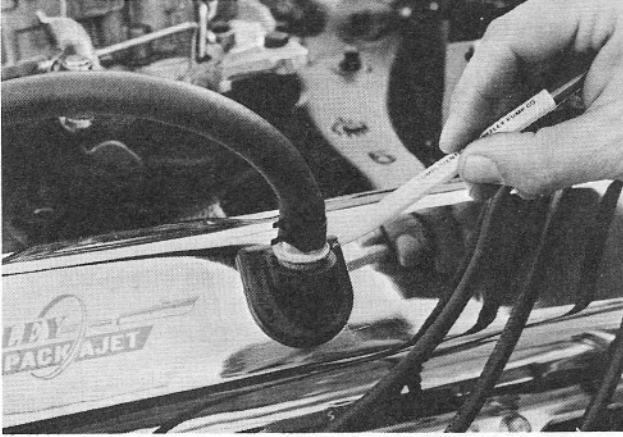

Figure 22
E. CRANKCASE VENTILATION VALVE Once every 12 months the crankcase ventilation (P. C. V.) valve located in the opposite valve cover should be replaced and the remainder of this system cleaned as outlined above for the crankcase ventilation filter (Figure 22).